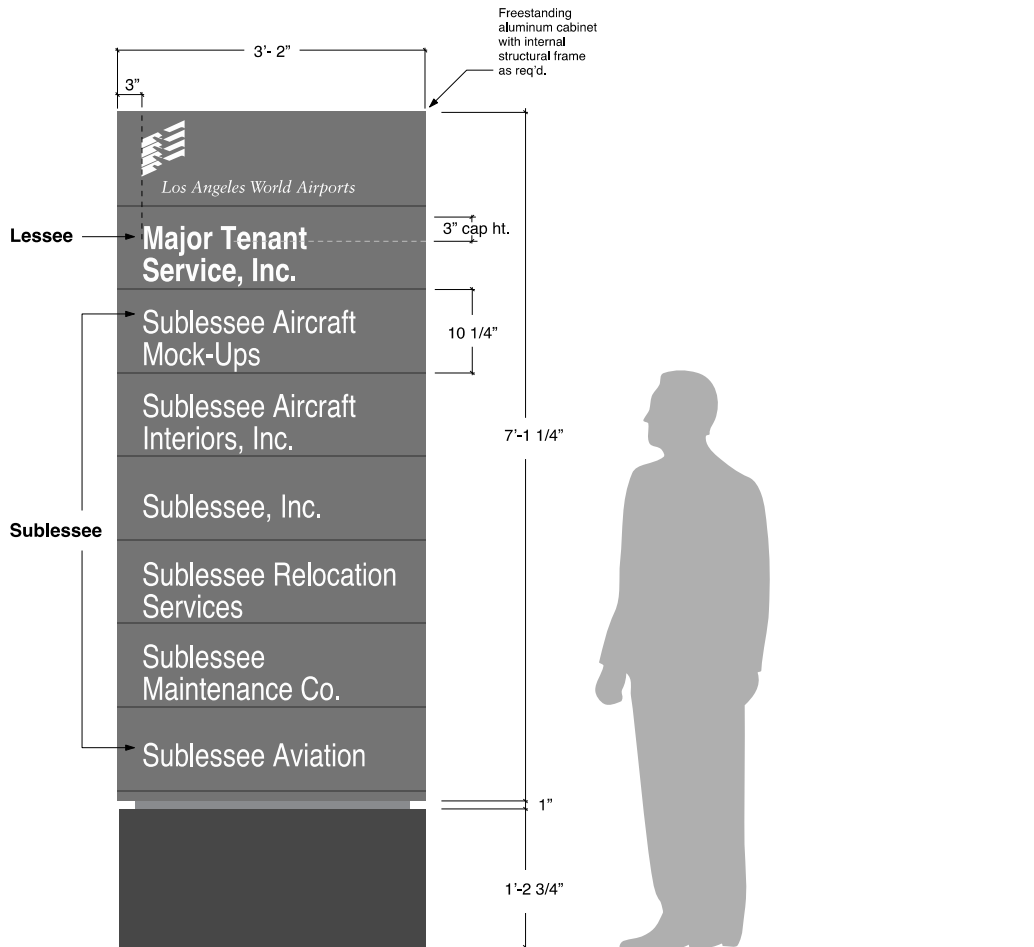

fig.10/ELEVATION
5. In cases where the building has more than one sublessee, LAWA shall place a tenant directory at the exterior entrance of the building. Addition of the sublessee to the tenant directory shall be at LAWA's discretion, upon review of the conditions of the sublessee's tenancy. The directory shall be located adjacent to the main entry of the building and shall be clearly visible from the street and passing vehicular traffic from both directions. Final design and fabrication specifications are determined by LAWA in accordance with approved guidelines. (see fig. 10).